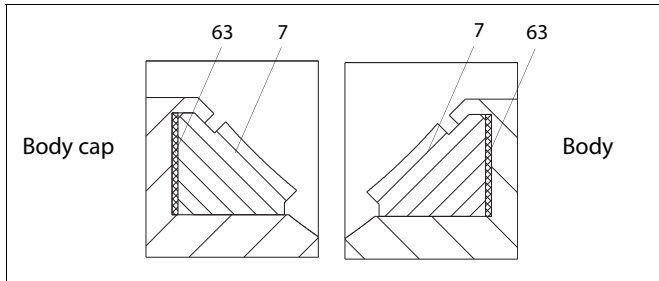

Fig. 25 K seat (2'')
- ❑ Place the back seal (63) into the body counterbore. Then place the seat (7) into the body counterbore, see Fig. 25.
- ❑ Place the back seal (63) in the ball seat (7); see Fig. 25. Place the seat in the body cap (2). Lock the seat with a special tool. See Section 4.9.4 for instructions.